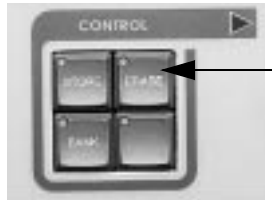
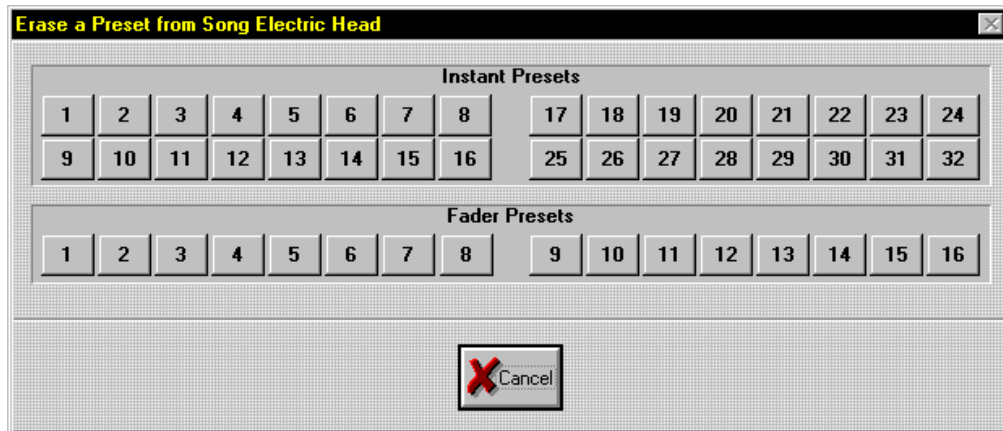

Figure 7.10. CONTROL Group
Figure 7.11. Erase a Preset From Song Dialogue Box
2. Press the <ERASE> key in the CONTROL group (Figure 7.10). Alternately, select **Erase Preset** from the **Song** drop-down menu. This will bring up the **Erase a Preset from Song** dialogue box. Refer to Figure 7.11.
3. Press the desired Preset key in the SYSTEM KEYS/INSTANT PRESETS group (Figure 7.4) or FADER PRESETS group (Figure 7.5) to erase. Alternately, click the desired Preset in the **Erase a preset from Song** dialogue box (Figure 7.11).